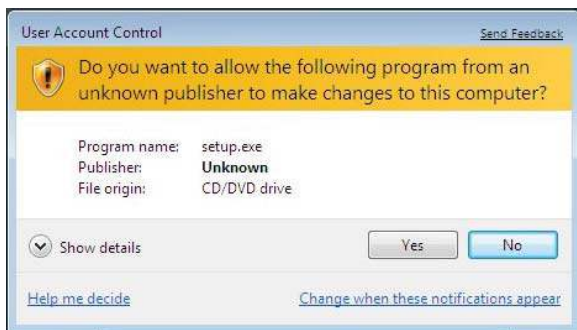

Figure 6. **User Account Control**, Permission Dialog Box
3. A dialogue box appears asking for permission to allow the program to make changes to the PC (see Figure 6). Click **Yes**.